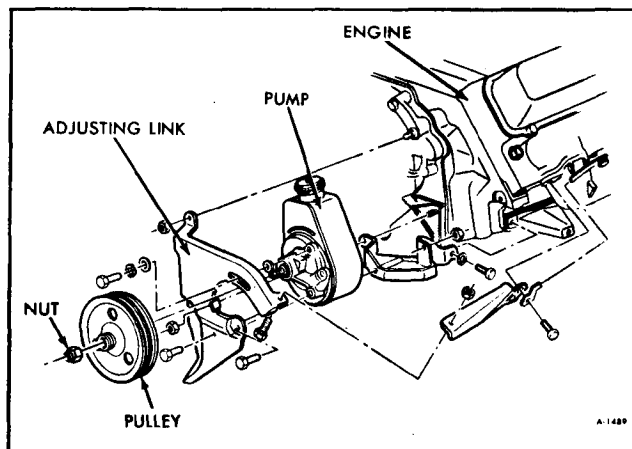

Figure 7—Pump Installation
### REMOVAL OF PUMP (FIGURE 7)
3. Remove power steering pump mounting bolts and nuts, and upper left venturi bracket. (See figure 7).